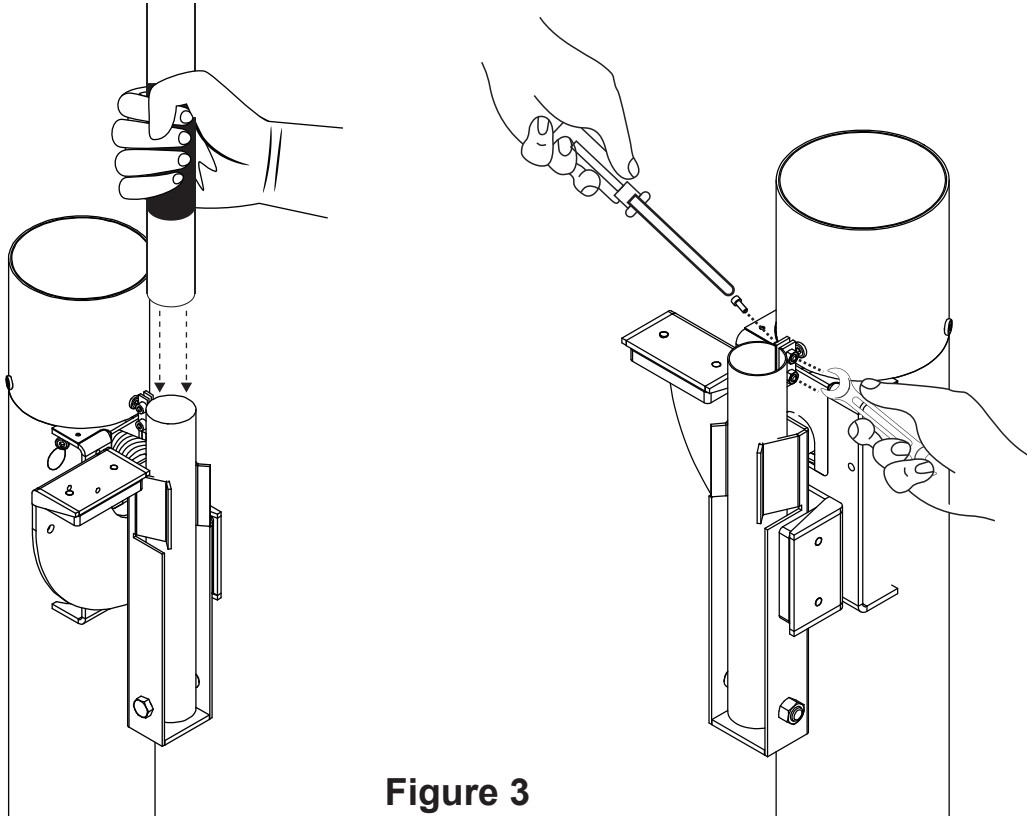

Figure 3
- (3) Assemble the 2.5 meters boom arm into the shell of rod that is on boom barrier motor. Then fasten the bolts on the shell as the Figure 3.